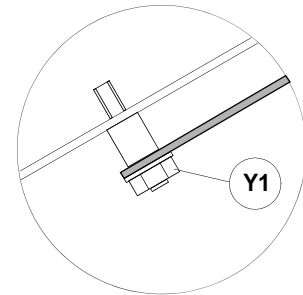

Fig. 138
- 4) take the electronic circuit board off by unscrewing the (Y1) nuts off (fig. 138).